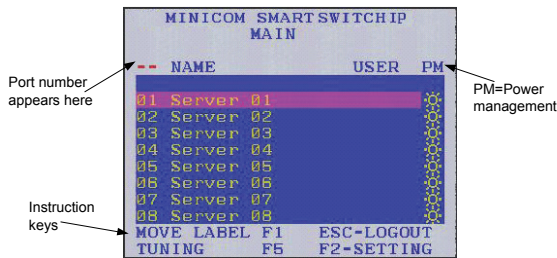

Figure 8 OSD Main window
1. From the local keyboard, press the left Shift key twice. The OSD Main window appears. See Figure 8. Lines with the sun icons in the PM column show switched on active computers/servers. A switched off computer has no sun icon. When a server is busy the entire line appears in red characters.